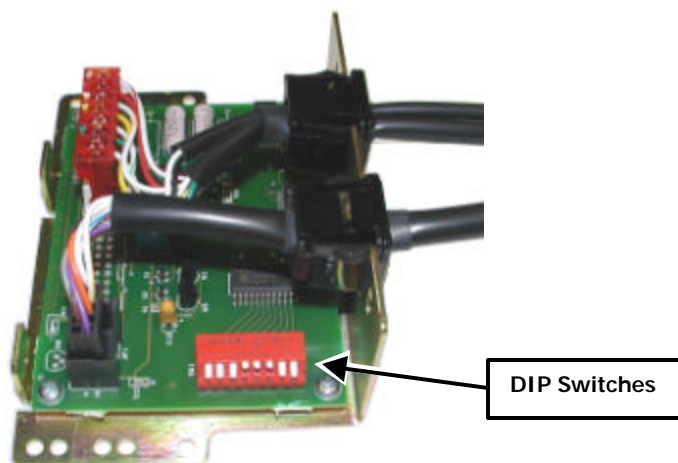

Figure 2. Protocol Adaptor Assembly (Typical) — Location of DIP-Switches 1 through 8
5. On Protocol Adaptor Assembly, set DIP Switches (**Figure 2**) to activate required functions indicated in Program Specification Sheet; refer to **Table 1** for DIP Switch definitions.